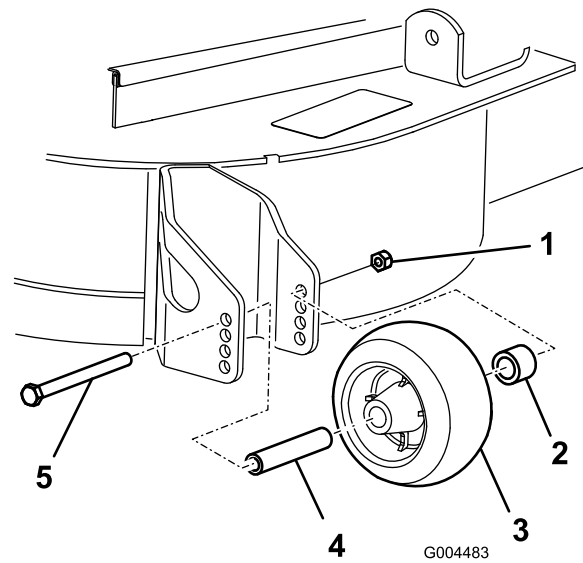

Figure 25
- After adjusting the height-of-cut, adjust the rollers by removing the flange nut, bushing, spacer, and bolt (Figure 25).
- Install the flange nut, bushing, spacer, and bolt. Torque to 40-45 ft-lb (54-61 N·m) (Figure 25).